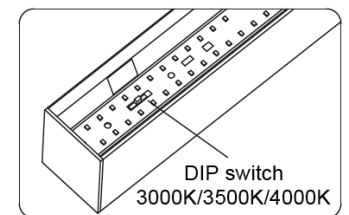

Fig. 1.2
2. Select the desired colour temperature settings (3000K/3500K/4000K) using the switch, and reattach the lens (Fig. 1.2)
6. Select CCT (3000K/3500K/4000K) (Fig. 1.2)